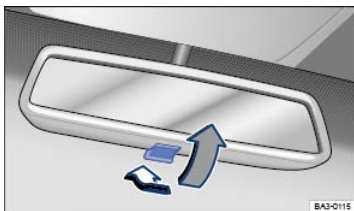

Fig. 87 Manually adjustable inside mirror.
- To adjust to non-glare visibility, move the lever so that it points backward ⇒ Fig. 87.